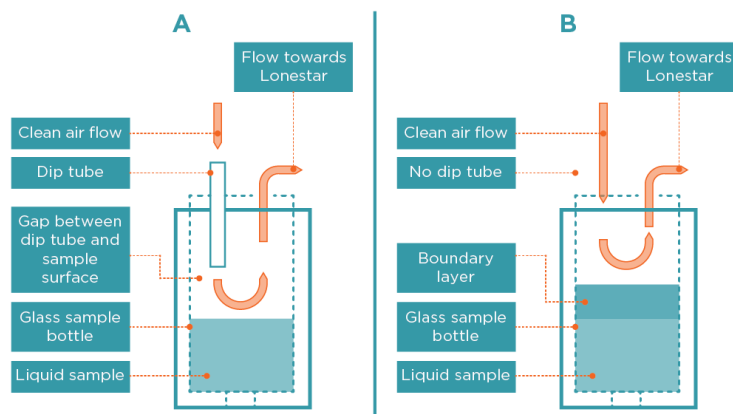

Figure 4: (A) Schematic of sample holder with dip tube in place. (B) Schematic of sample holder without dip tube, showing increased boundary layer
A related factor is the distance between the purge flow inlet and the surface of the sample. This is illustrated in Figure 4. When a dip tube is used to reduce the inlet-surface distance, the flow travels through the entire depth of the headspace (A). Without a dip tube, the flow will take the shortest path to the outlet of the sample vessel (B). Analyte vapour from higher up in the headspace is taken to the Lonestar, while vapour from closer to the surface remains in the vessel. This causes the development of a boundary layer of higher-concentration air above the surface of the sample.